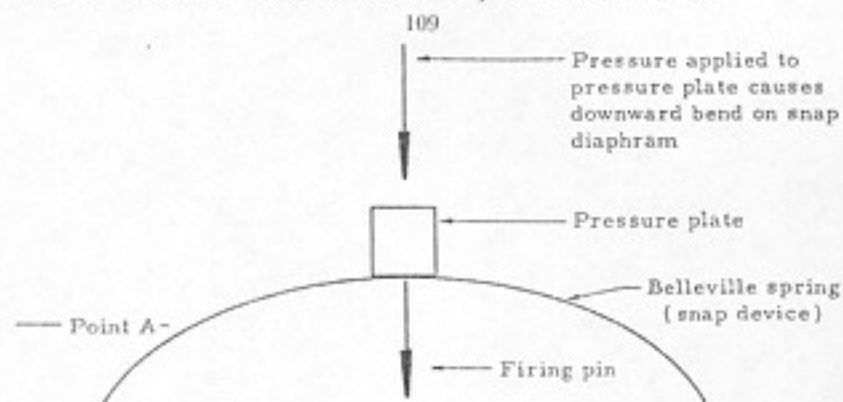

FIGURE 59. Belleville spring (snap diaphragm).
4. Uncocked firing pins – This is cocked and fired all in one operation and can be done by application of pressure, tilting, or pull. A good example is the fiber spring called the "Belleville spring" (Figure 59). This device, from a bottom view, resembles a saucer and is constructed of a fiber or plastic material which will give it a snapping action similar to the metallic springs utilized in "crickets" that children snap to make a noise.